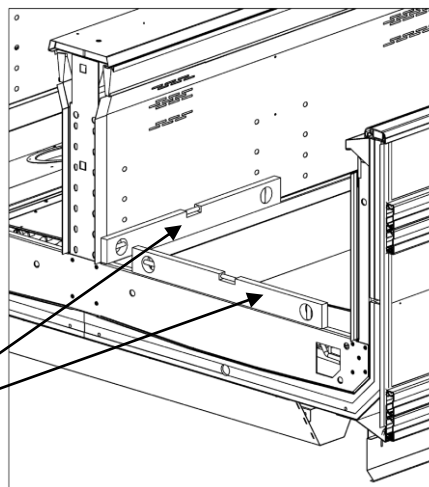

Figure 4 Case levelling
4. Adjust the case height using the adjustable feet (if fitted) or metal shims (do **NOT** use **timber**) to ensure the case is level to **within +/- 1.5mm** from front to back and side to side, (refer figure 4)